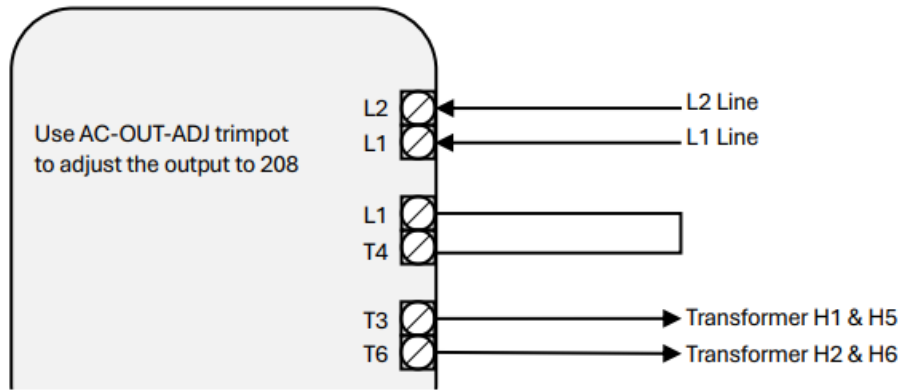
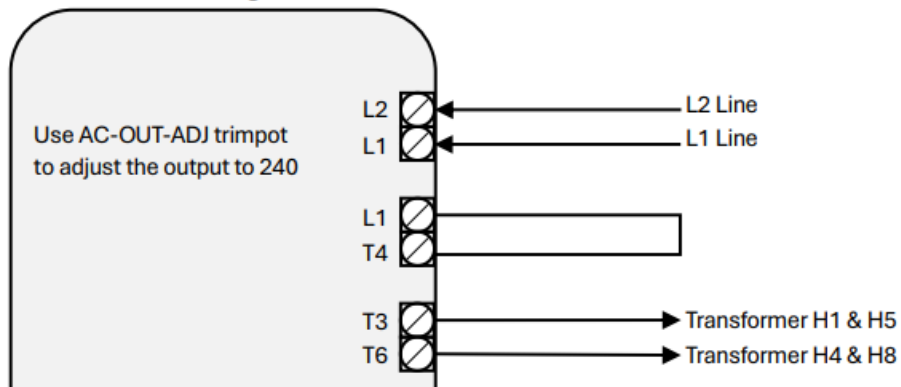
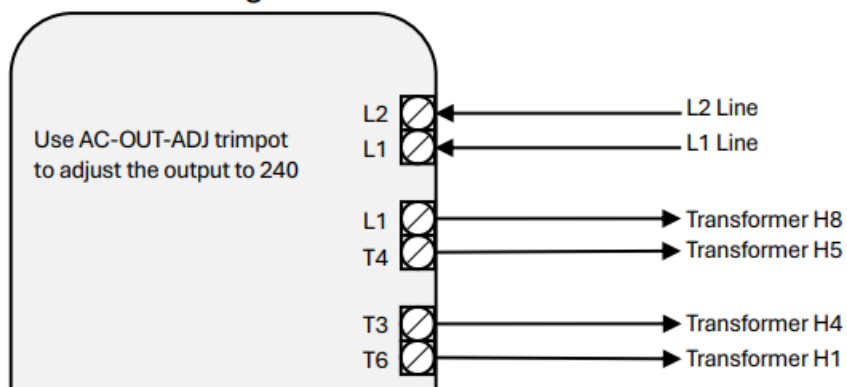

Figure 6: 208 VAC Wiring
Figure 7: 240 VAC Wiring
Figure 8: 480 VAC Wiring
- L1, T4, T3, T6: External connections based on incoming main line power [see Figure 6, Figure 7, and Figure 8].